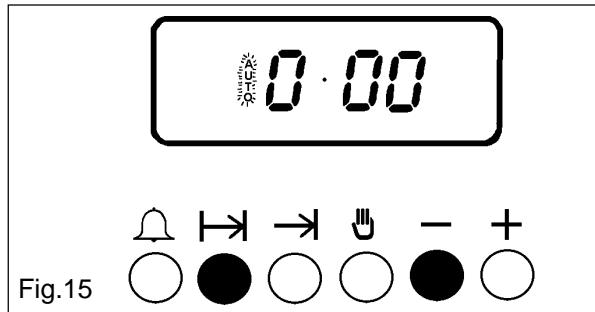

Fig.15
- A programme may be cancelled by returning the cooking time to zero. Press the cooking hours button (  $\rightarrow$  ) while holding it down press ( - ) button until 0.00 is displayed as Fig. 15.